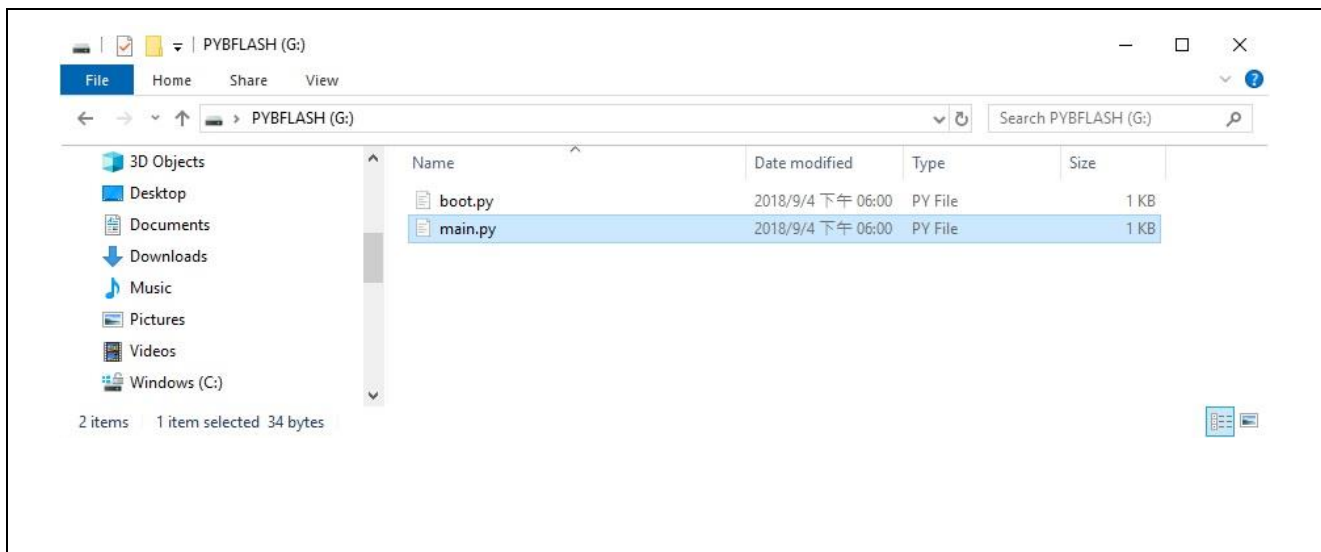

Figure 3-5 PYBFLASH Disk
3. Enable USB mass storage mode. The firmware will export a PYBFLASH disk (Figure 3-5).